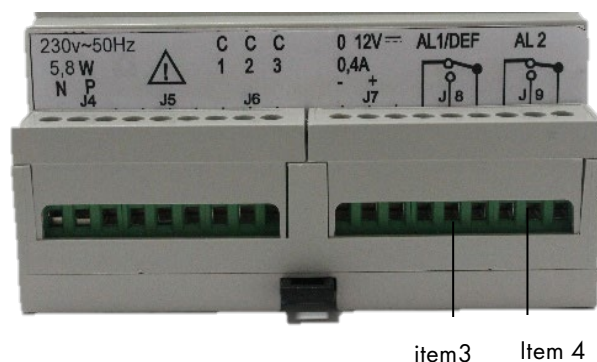

Figure 4: relays terminals
- Relay 1 (REL 1), which is in mode, corresponds to the first gas alarm threshold and to the "FAULT" alarm. This relay is equipped with SPDT contacts available on the SV 4B terminal block (Item 3, Figure 4).
- Relay 2 (REL 2), which is "negative safety" mode, corresponds to the second gas threshold only. This relay is also equipped with SPDT contacts available on the SV 4B terminal block (item 4, Figure 4).